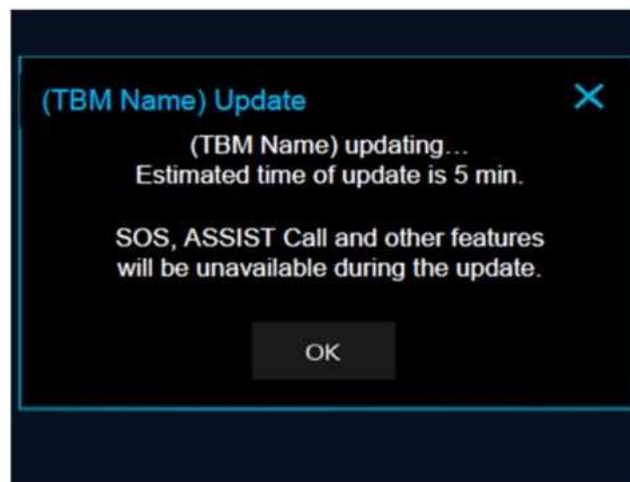

Fig. 5
20. A pop-up should appear to indicate that the updating procedure is started (Fig. 5) press “OK” and **do not switch off the engine.**
29. A pop-up should appear to indicate that the updating procedure is started (Fig. 5) press “OK”.